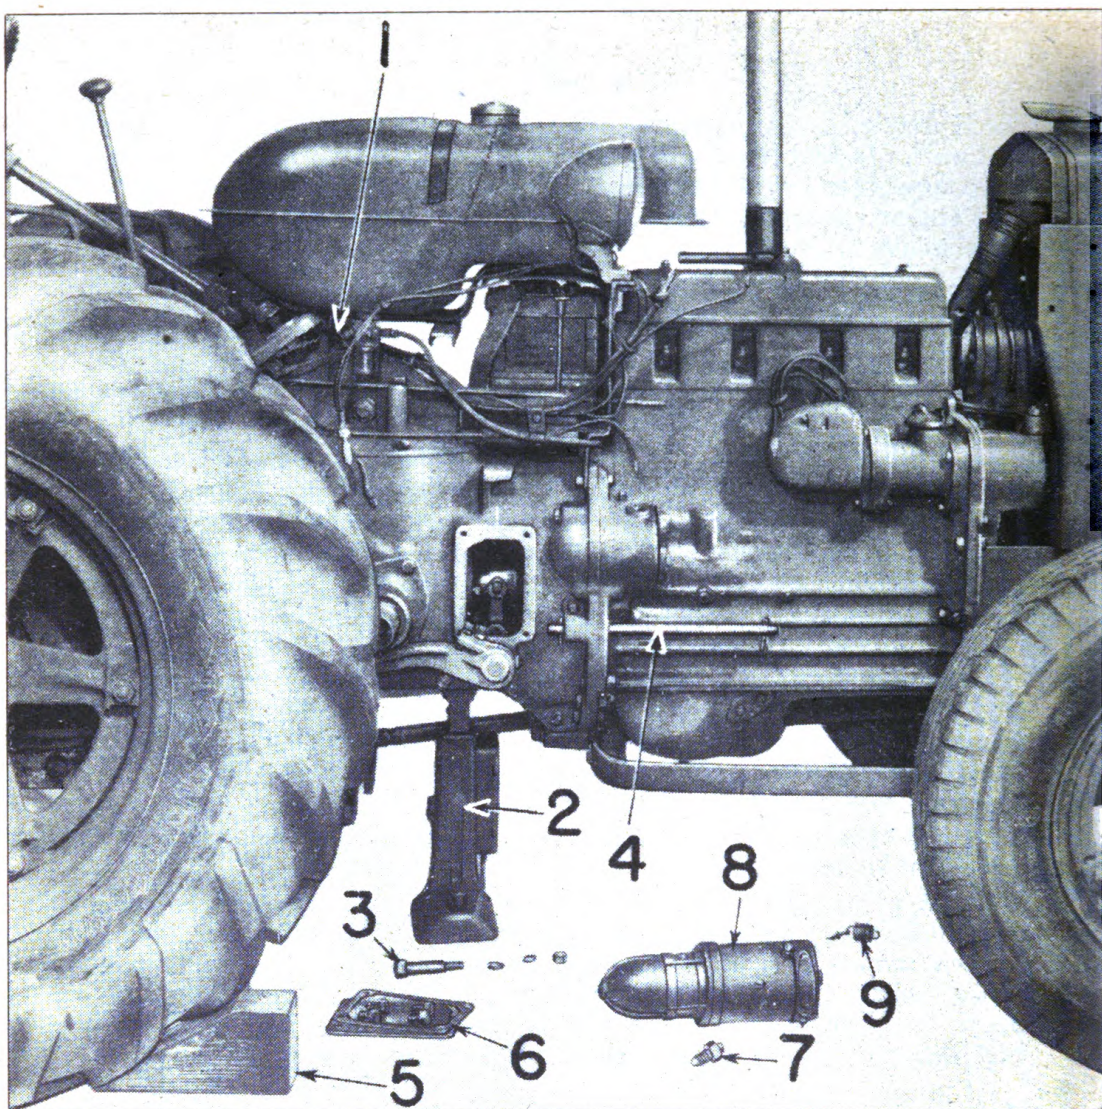

Fig. 70. Right Side of Tractor Prepared for Splitting
In order to remove the clutch assembly, it is necessary to split the tractor as outlined below and illustrated in Figs. 70 and 71.
1. Block drive wheels as shown in Figs. 70 and 71 and lock foot brake Fig. 5.
8. Shut off gas line at fuel tank and disconnect gas line at carburetor. No. 1 Fig. 70.
13. Remove starting motor No. 8 Fig. 70 by taking out starting motor lock screw No. 7 Fig. 70 to prevent damage when splitting.
14. Disconnect throttle rod front and remove governor lever adjusting screw from arm. Unhook governor spring No. 9 Fig. 70 from rod and push back as far as possible.
16. Remove hand hole covers from both sides of clutch housing. No. 6 Fig. 70 and 71.
18. Put jack under transmission case. Fig. 70